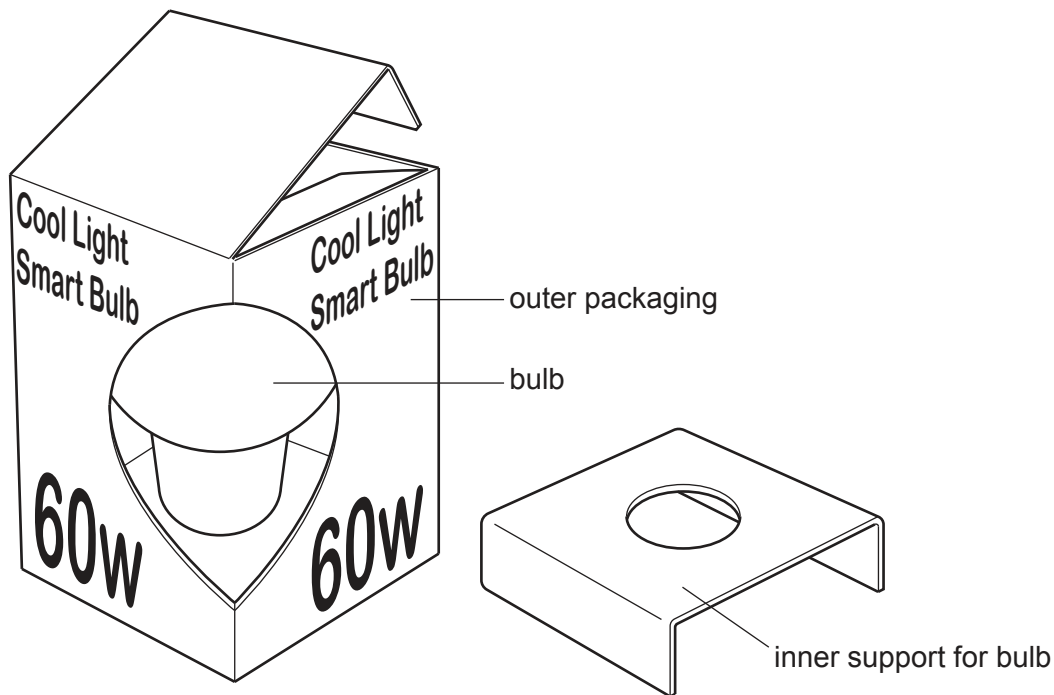

Fig. 9.1
- 9 Fig. 9.1 shows a prototype for the packaging for a smart bulb.